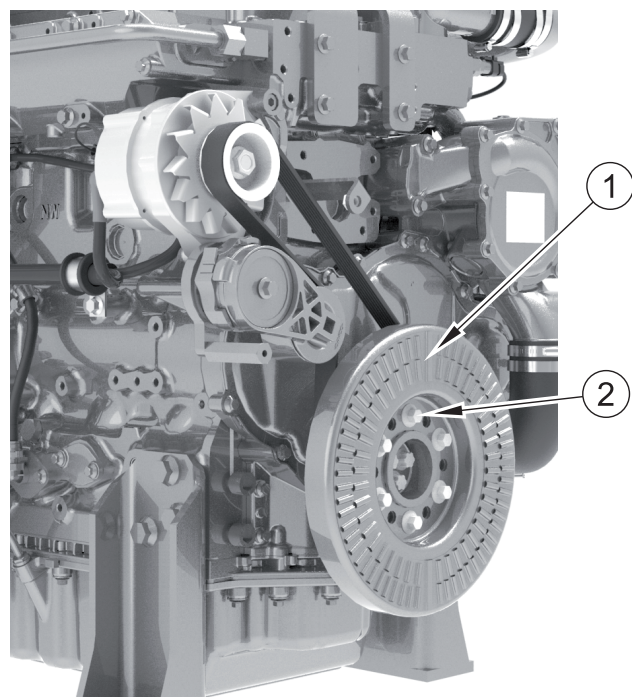

Figure 39
Check that the six bolts (figure 39 item 2) for the viscous damper are tightened correctly: